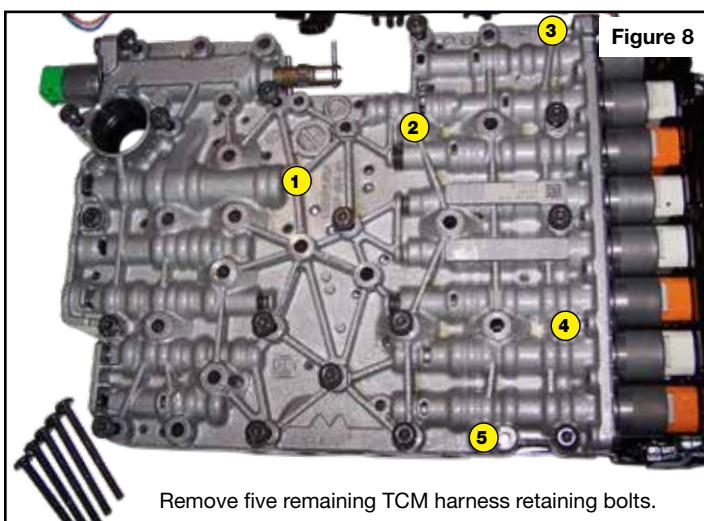

Figure 8
- Remove remaining five bolts to remove TCM from valve body (Figure 8).